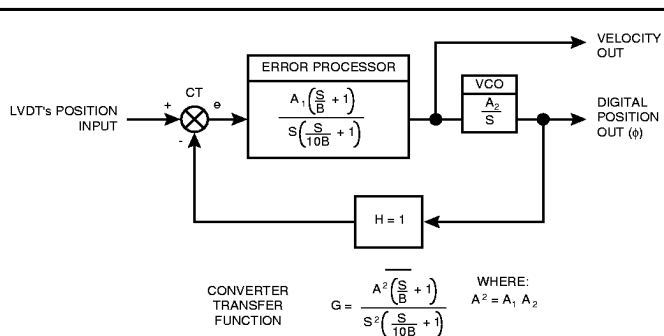
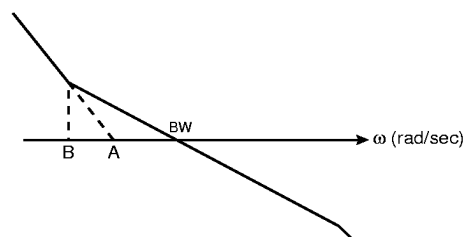

FIGURE 4. CONTROL LOOP BLOCK DIAGRAM
FIGURE 5. OPEN LOOP BODE PLOT
The Velocity output (VEL) from the DTC-19300 is a DC voltage proportional to the angular velocity ($d\lambda/dt = d\delta/dt$). The velocity is input to the second integrator, as shown in FIGURE 4. Its linearity is dependent solely on the linearity of the voltage controlled oscillator (VCO). An open loop Bode plot is shown in FIGURE 5. Bandwidth (BW) and the acceleration constant (K_a) can be determined by the following formula: